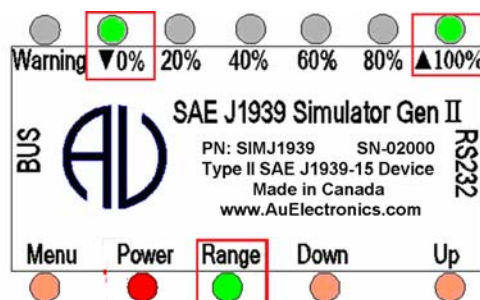

Figure 3-9
- When CAN bus is off, three LED (▼0% LED, ▲100% LED, and Range LED) blinks, as shown in Figure 3-9.